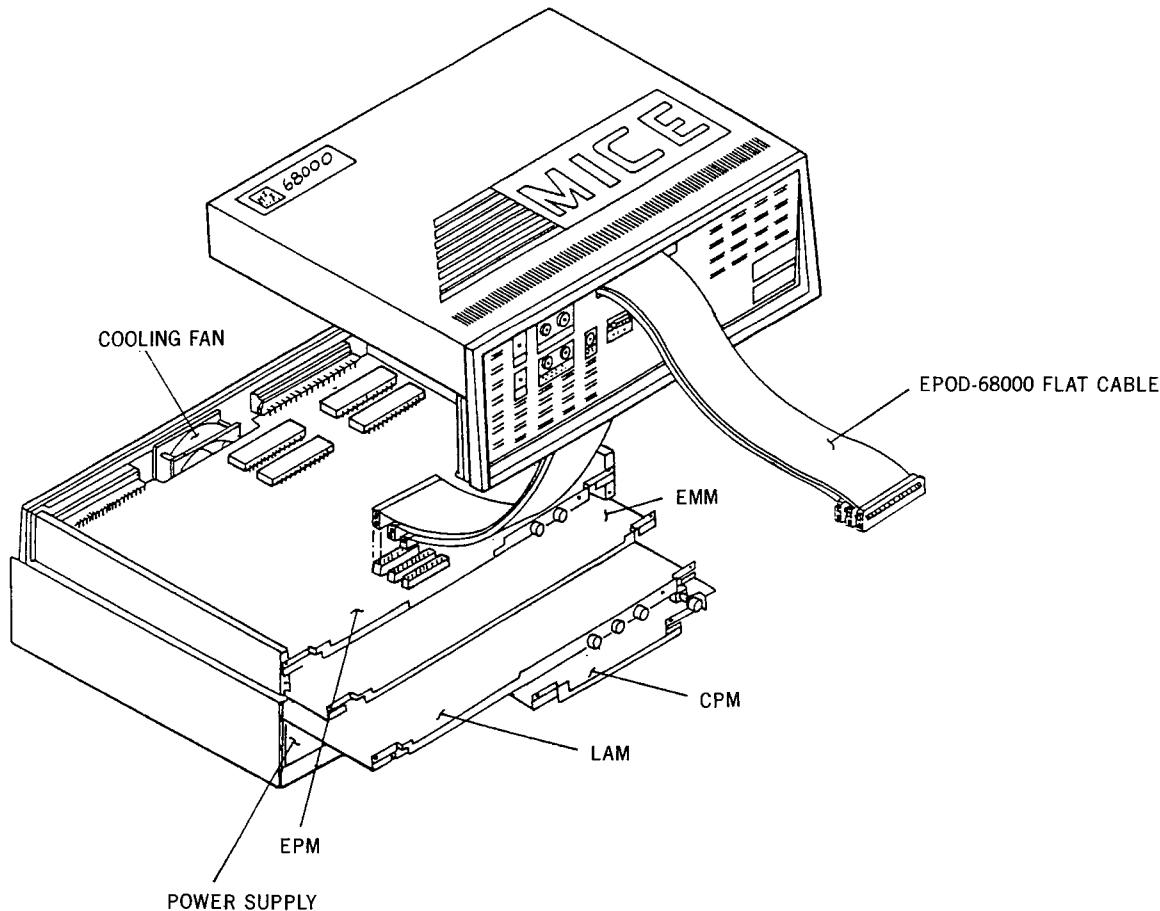

Figure 2-12 Removal/Installation of EPOD-68000 Flat Cable
- 2) Open the MICE case and unplug the other set of 50-pin cable connectors from the EPM board and carefully slip them out through the cable slot on the MICE case front panel (Figure 2-12).